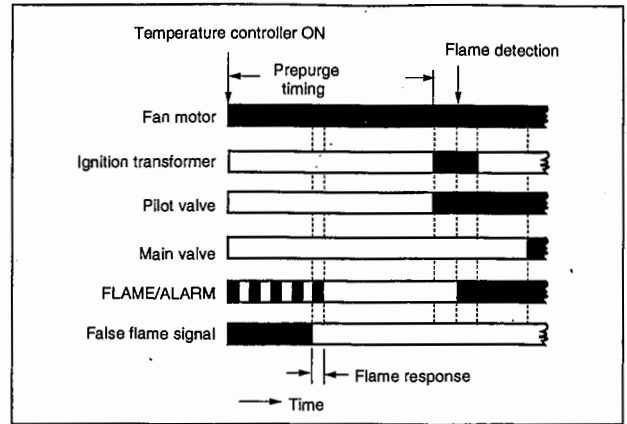

Fig. 13 (2)
- (3) When a false flame signal is generated halfway in the course of prepurge; (See Fig. 13 (3))